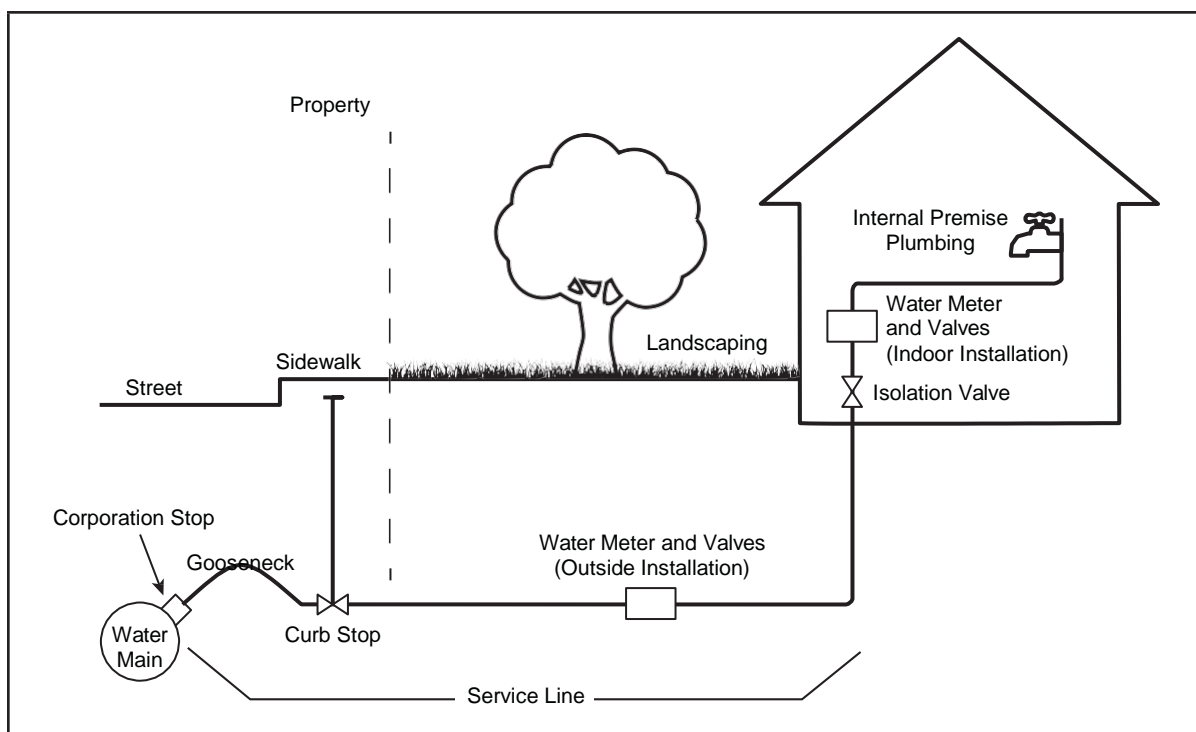

Figure 1 Typical water service line components
2. *Corporation stop*: A valve attached to the water main to which a service line is connected. It is used to interrupt flow during installation or maintenance of the service line (see Figure 1).
3. *Curb stop*: A valve installed in the service line, generally at the property line, and accessible for operation from the surface of the ground for routinely interrupting flow through the service line (see Figure 1).
5. *Gooseneck*: A sweeping bend in a service line where it connects to the water main, resembling the shape of a goose's neck, that will allow soil movement without damaging the service line (see Figure 1).
9. *Service line*: The pipe that runs between the utility's water main and the specific premises' plumbing, including both the portion owned by the utility, if any, and the private service line owned by the property owner (see Figure 1).
11. *Water main*: The water pipe from which the domestic water supply is delivered by the utility to the service pipe leading to specific premises (see Figure 1).
12. *Water meter*: An instrument used for recording the quantity of water passing through the service line to specific premises. Water meters are typically installed with valves on inlet and outlet sides of the meter (see Figure 1).